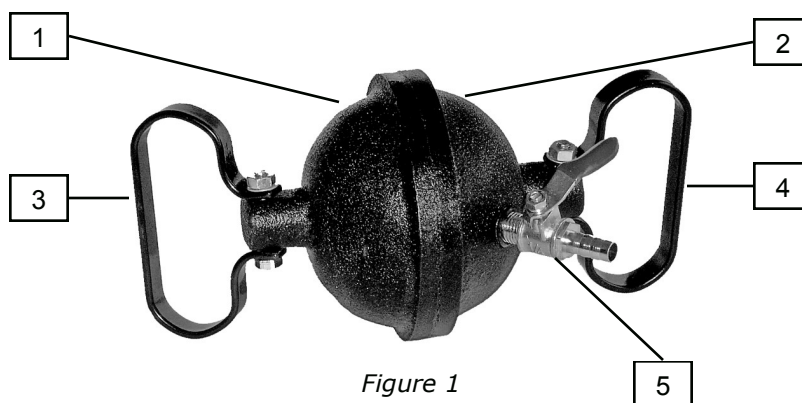

Figure 1
The Magdeburg Hemispheres consist of a pair of matching cast iron hemispheres (1,2, *Figure 1*) with their mating surfaces ground flat to fit each other closely. Two handles (3,4) are attached to the hemispheres, and a valve (5) with a hose barb is fitted to one hemisphere.